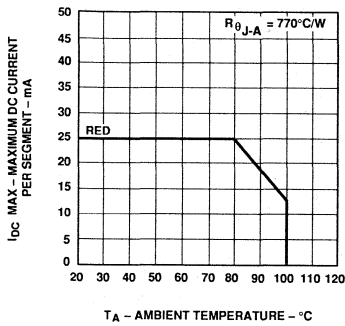

Figure 2. Maximum Allowable DC Current vs. Ambient Temperature.
- Derate above 80°C at 0.63 mA/°C (see Figure 2).